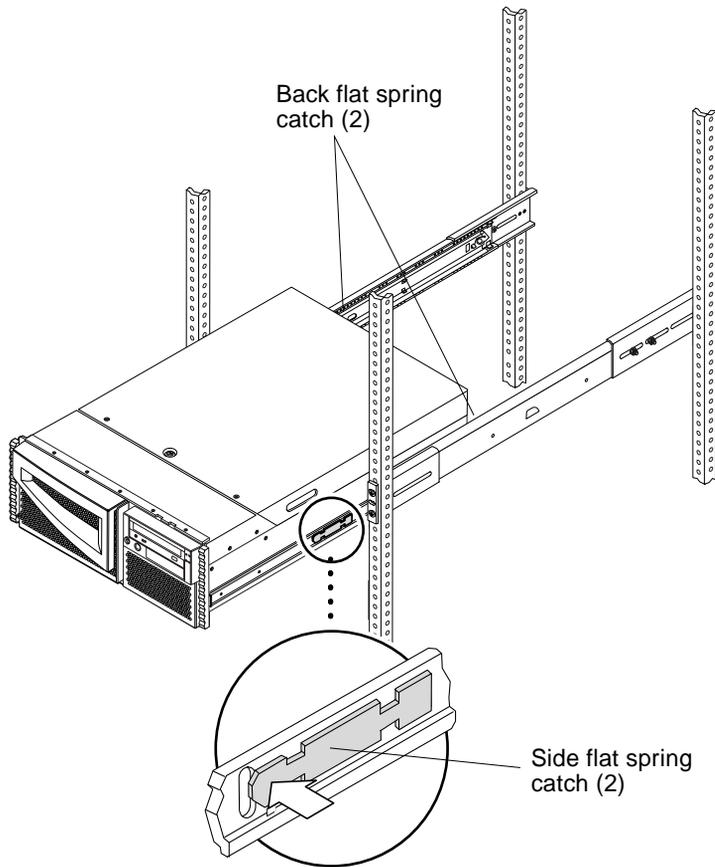

FIGURE 9-14 Pressing the Flat Spring Catches
7. **Simultaneously release both rear corner flat spring catches and then simultaneously press on both side flat spring catches (FIGURE 9-14).**